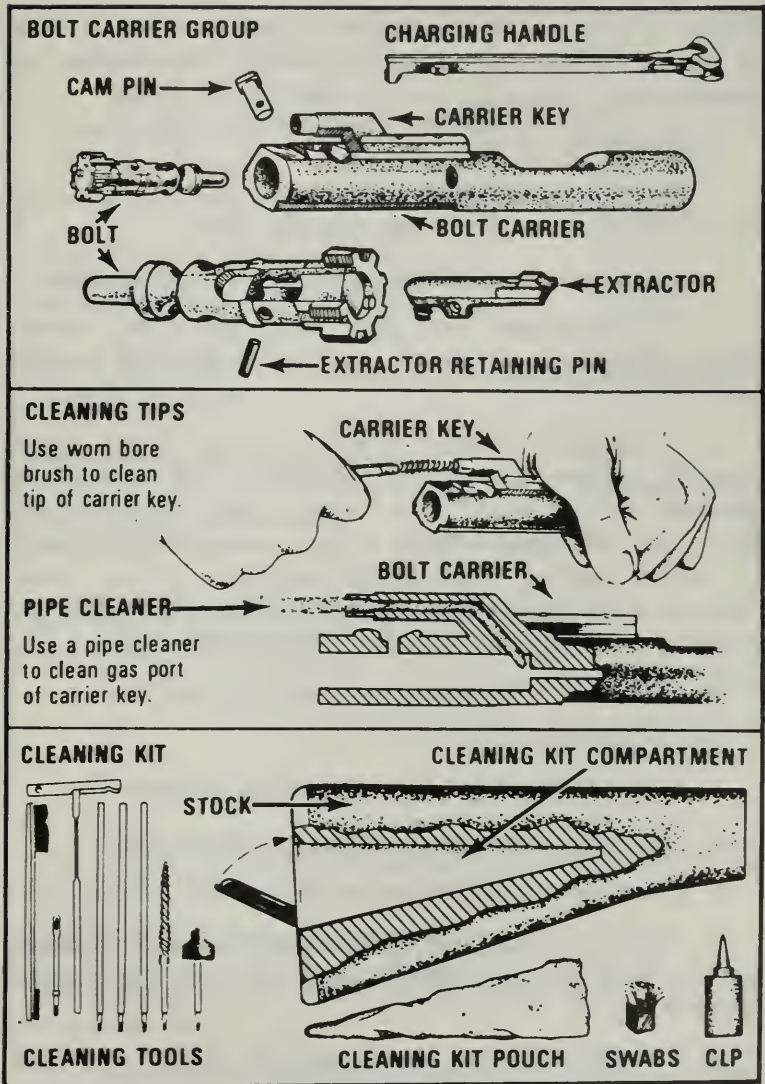

Figure 69. Cleaning the bolt carrier group.
- b. Clean the bolt carrier group (Figure 69).
- (1) Clean the outer and inner surfaces of the bolt carrier.
- (2) Clean the carrier key.
- (3) Clean the firing pin recess and firing pin.
- (4) Clean the firing pin hole with a pipe cleaner.
- (5) Clean the carbon deposits and dirt from the locking lugs.
- (6) Clean the areas behind the bolt ring and under lip of the extractor.